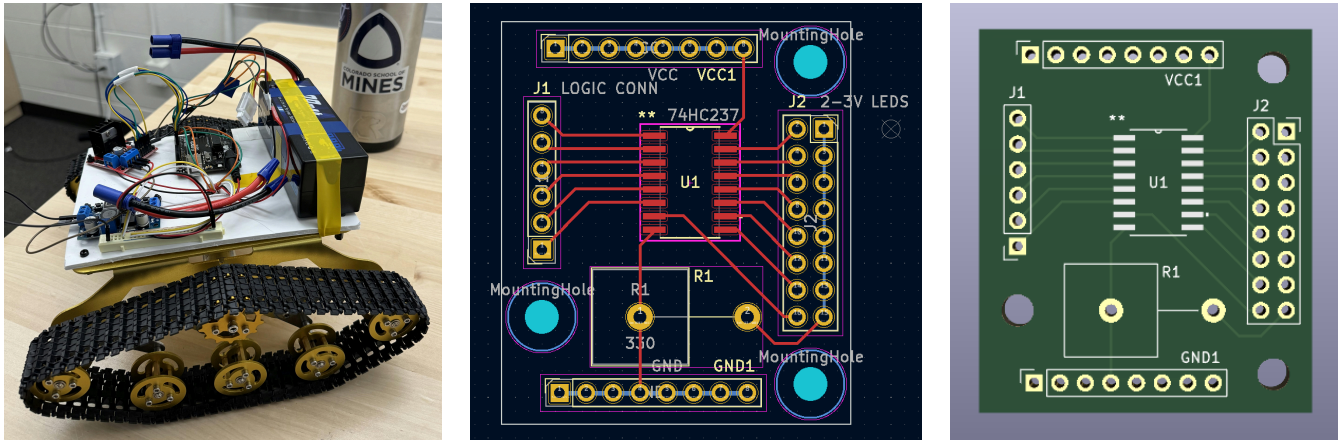

Figure 1: Works completed to date. (L) Prototype mechatronic system, (R) PCB design.
- *LED Demuxer*: Our circuit board's primary purpose is to enable us to indicate our robot's status visually without occupying too many pins on our microcontroller. Our PCB will incorporate a 3 to 8 demuxer, a resistor, and ports for 8 LEDs to achieve this. As a second-order effect, the PCB will clean up our robot's wiring by supplying 5V power rails. Our initial PCB design is in Figure 1.
Our work/deliverables are planned in two-week increments to keep tabs on progress and enable us to react quickly to issues that arise. We have created a backlog of deliverables on GitHub and are organizing our work using a Kanban board. Table 1 shows our milestones and their current status. We have completed the first three milestones and are progressing on the rest. Completed works are shown in Figure 1.